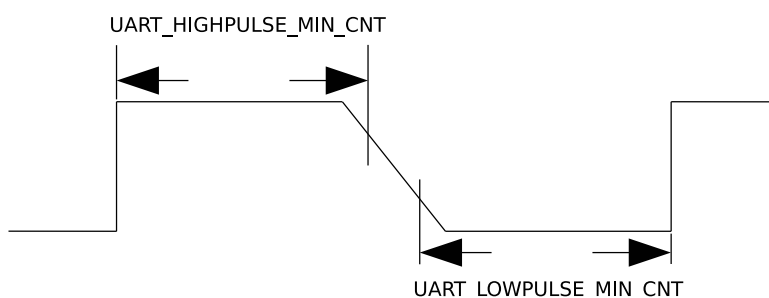

Figure 32.4-2. The Timing Diagram of Weak UART Signals Along Negative Edges
Automatic baud rate detection (Autobaud) on UARTs is enabled by setting UART_AUTOBAUD_EN . The Baudrate_Detect module shown in Figure 32.4-2 filters any noise whose pulse width is shorter than UART_GLITCH_FLT .
2. If UART signals are weak along negative edges as shown in Figure 32.4-2, which leads to an inaccurate average of `UART_LOWPULSE_MIN_CNT` and `UART_HIGHPULSE_MIN_CNT`, use `UART_POSEDGE_MIN_CNT` to determine the transmitter's baud rate as follows: